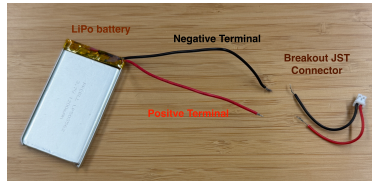

Figure 1: Step3
3. Cut the JST cable connected to the LiPo battery. You should now have two separate pieces: the LiPo battery with exposed positive and negative terminal wires, and the breakout JST connector, as shown in Figure 1.